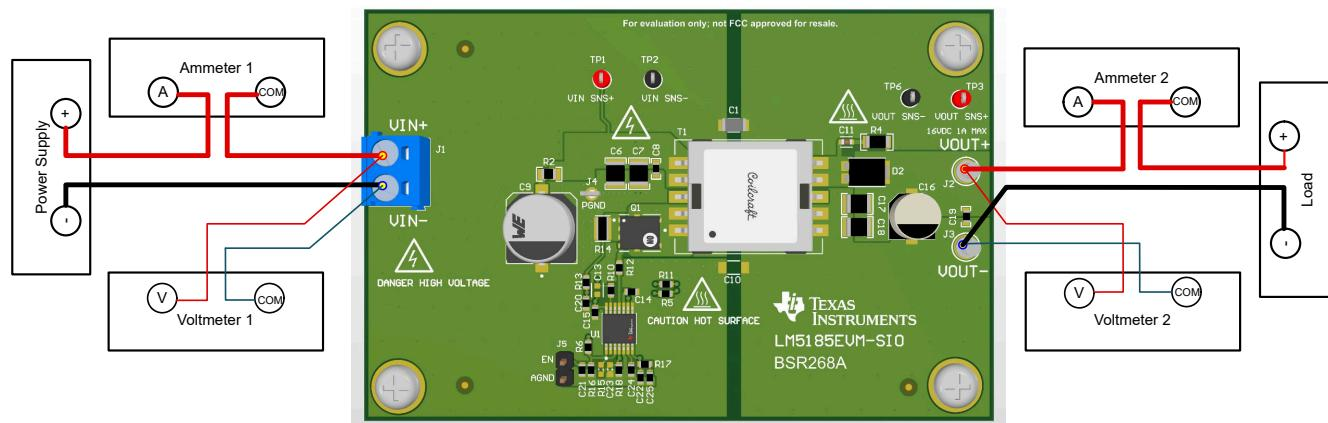

Figure 2-1. EVM Test Setup
Figure 2-1 shows the diagram of EVM bench test setup. Refer to Section 2.2 and Section 2.3 in this user's guide for detailed information of headers, jumpers and test points. Refer to Section 2.4 for the setup assembly and test procedure. Refer to Section 2.5 for the important notice on safety concerns when handling the EVM.
- Prior to connecting the DC input source, set the current limit of the input supply to 100 mA maximum. Verify the input source is initially set to 0 V and connected to the VIN+ and VIN- connection points, as shown in Figure 2-1. An additional input bulk capacitor is recommended to provide damping if long input lines are used.
- Connect electronic load to VOUT+ and VOUT- connection points as shown in Figure 2-1. Set the load to constant-resistance mode or constant-current mode at 0 A before applying input voltage.